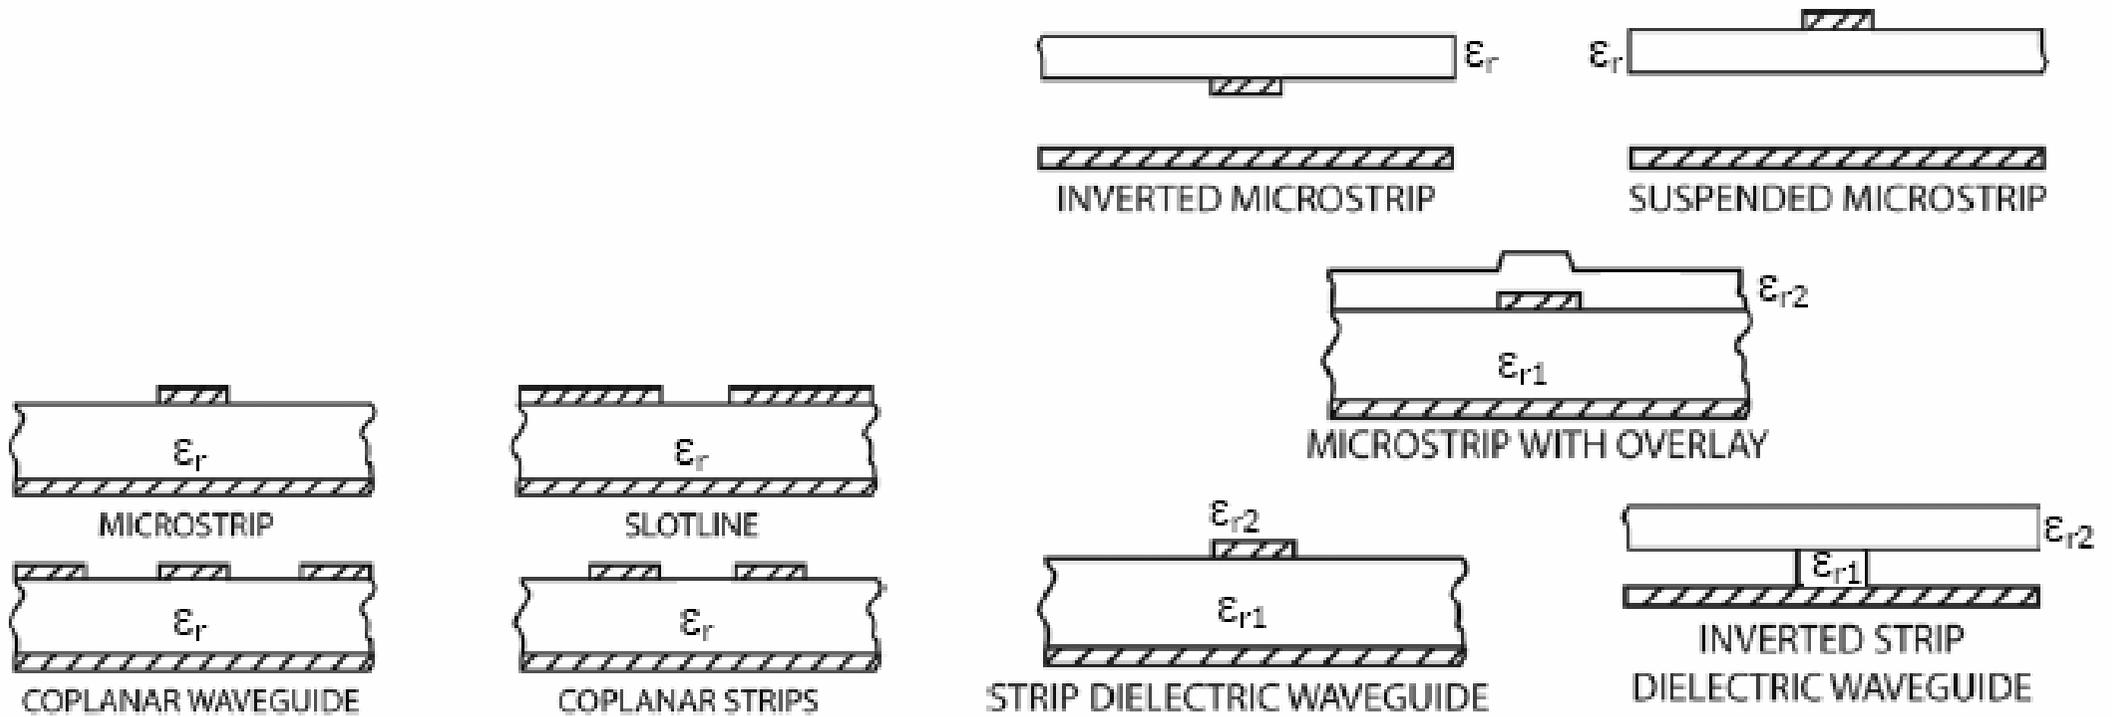

Fig. 25 (left): Planar transmission lines used in MICs; Fig 26 (right): various Transmission lines derived from microstrip
- ◆ In Figs. 25 and 26 various planar printed transmission lines are depicted. The microstrip with overlay is relevant for MMICs and the strip dielectric wave guide is a 'printed optical fibre' for millimeter-waves and integrated optics [17].